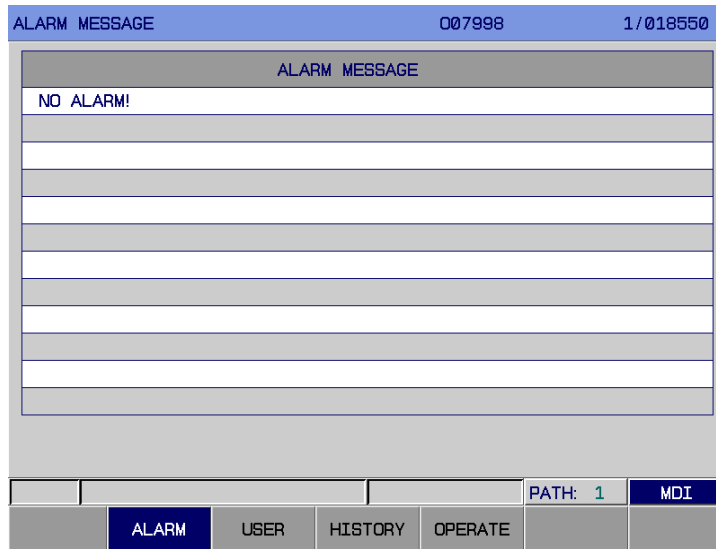

Fig. 3-7-1
to display the alarm page. There are 4 subpages: **【ALARM】**, **【USER】**, **【HISTORY】** and **【OPERATE】**, all of which can be viewed by the corresponding soft keys (See Fig.3-7-1 to Fig.3-7-4). Whether the page is switched to alarm page when an alarm occurs can also be set by bit parameter No: 24#6.
1. Alarm page In <ALARM> page, press soft key 【ALARM】 to enter this page, as is shown in fig.3-7-1.